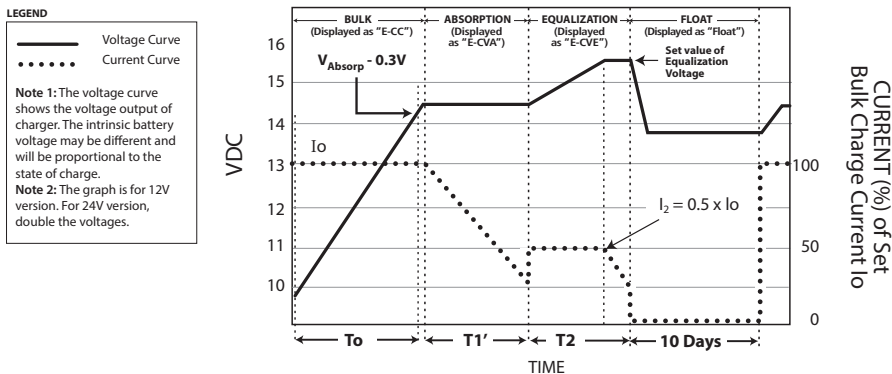

Fig 5.2 Charging Curve for 4 Stage Charging in Equalization Mode
4 Stage Charging Algorithm is used in the Equalization Mode. Equalization Mode is selected using optional Remote Control EVO-RC (see Appendix A). This mode is used only for Flooded or Wet Cell batteries. The 4 stages will be - Bulk, Absorption, Equalization and Float. For details, see Section 6.2 and Charging Curves at Fig 5.2. Equalization Mode is desirable for the proper health of Wet Cell Batteries. Equalization voltage is programmable. Equalization current and Equalization time are computed automatically. Please see Table 6.2 for details.
Fig 5.2 shows the voltage and current curves during the 4 stages of charging in this mode. When Equalization is selected (requires optional Remote Control Model EVO-RC (see Appendix A), the charger will first execute Bulk Stage followed by Absorption Stage. On completion of Absorption Stage, the charger will execute Equalization Stage. After completion of Equalization Stage, the charger will enter Float Stage. The stage transitions will thus be: Bulk Stage (Constant Current) → Absorption stage (Constant Voltage) → Equalization Stage (Constant Voltage) → Float Stage (Constant Voltage).
5.8 DETAILS OF EQUALIZATION MODE CHARGING CYCLE (Fig 5.2)